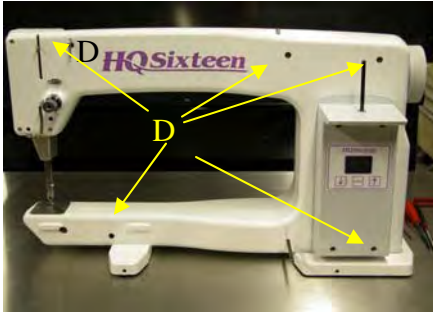

Figure 2.6
6. Remove the 5 frame screws D in Figure 2.6 Note: the fifth screw is behind the C-print removed in step 4. (**4mm handle allen – may need 4mm L allen tool to break loose screws**)